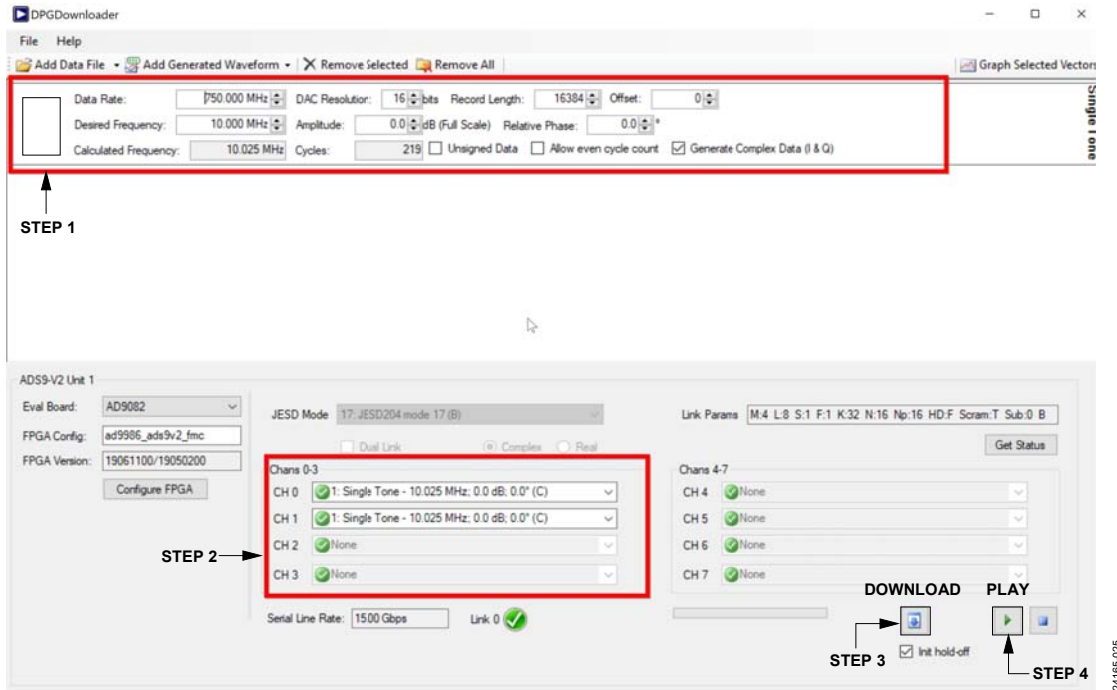
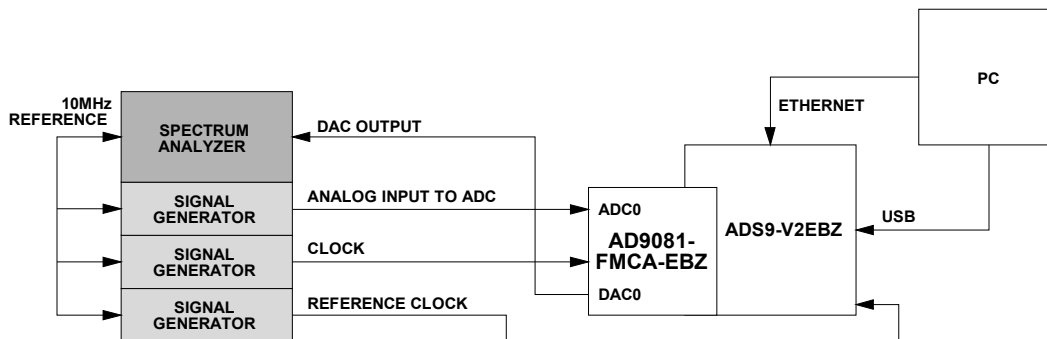
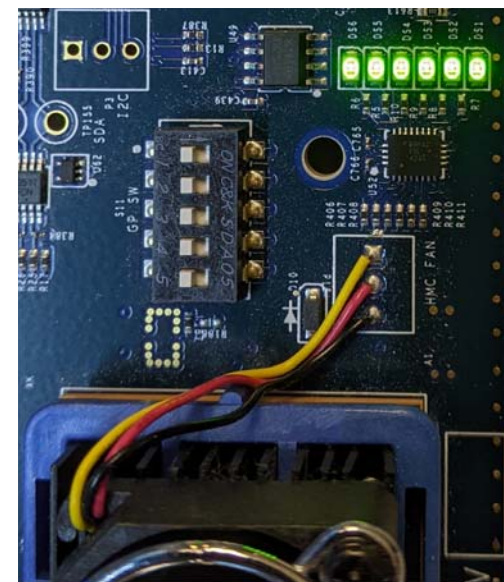

Figure 28. Downloading the Single-Tone Signal to the DAC
Figure 30. Hardware Setup for Using the Chip View (Note the 10 MHz Reference Connection)
Figure 34. LED Status on ADS9-V2EBZ Following a Successful Data Capture
1. At the top of the window, enter or verify the following data values, as shown in Figure 28:
2. Select the channels. In Figure 28, two channels are selected.
1. Set up the evaluation board hardware and instrumentation as shown in Figure 30.
If this happens, and the setup is using an external direct clock to the chip, ensure that the instrumentation is setup as shown in Figure 30. Ensure the correct clock and reference clock frequencies are set. Check the connections to the evaluation board to ensure that the connections are snug. If the problem persists, open the DPGDownloaderLite software (included with the ACE installation) and download a tone (see Figure 28). After this step, a successful data capture shows all the LEDs lit (see Figure 34).